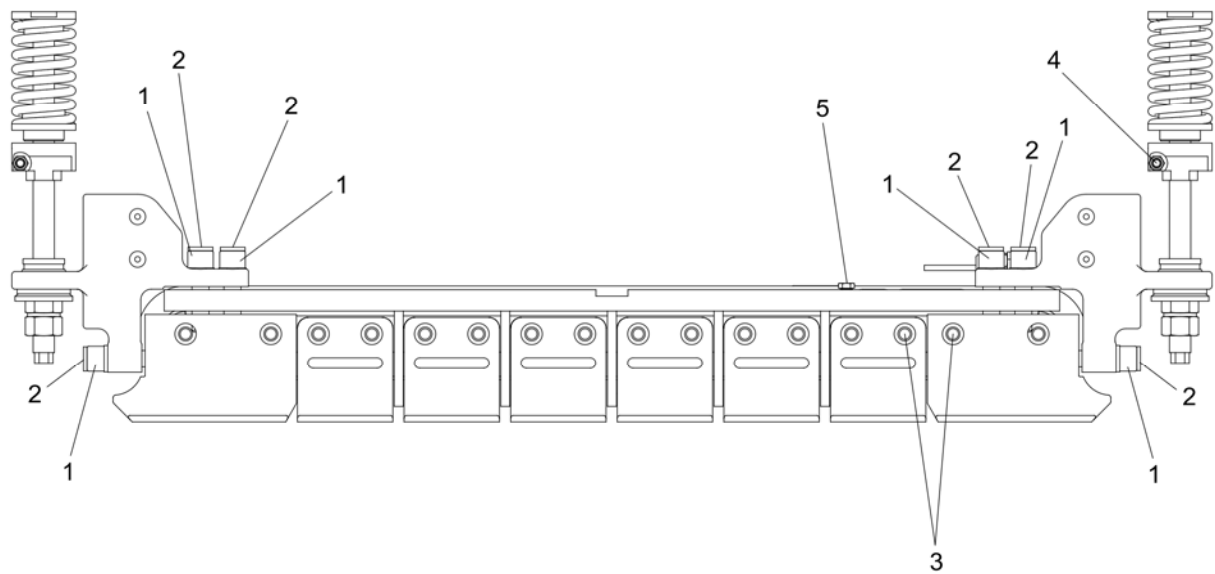

Figure 5-1: Track Brake Torque
4. Inspect track brake attaching screws for tightness, see Figure 5-1. If screws are loose and need tightened, torque per the values in the following table. If any screws need re-torqued, install new protective stoppers after completing the work.